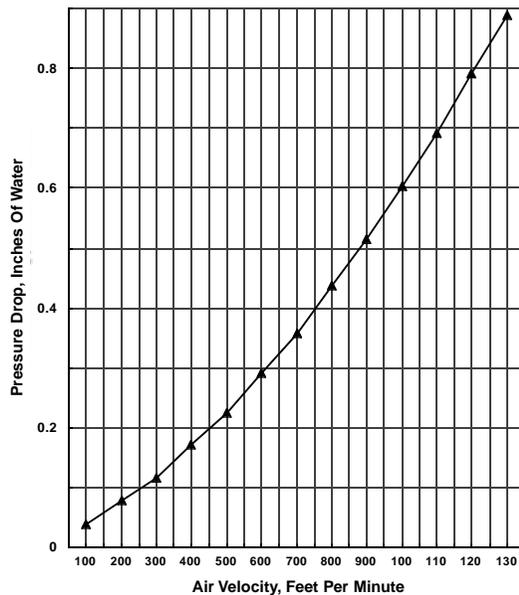

Figure 72D. ULTRA-SAFE™ Pressure Drop Curve
**Pressure drop** through the heater can be determined by using figure 72D for the ULTRA-SAFE™ duct heater unit sizes A through F. Contact INDEECO for pressure drop data for unit sizes G through Z.